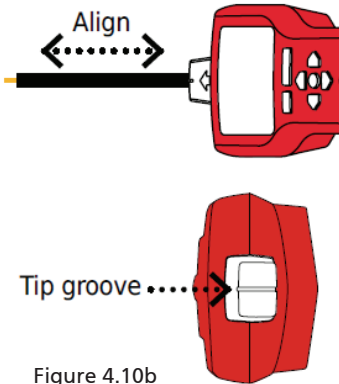

Figure 4.10b
5. Receiver Positioning: For best results, align groove on tip sensor with wire direction as shown. Signal may be lost if not properly aligned. (see figure 4.10b)